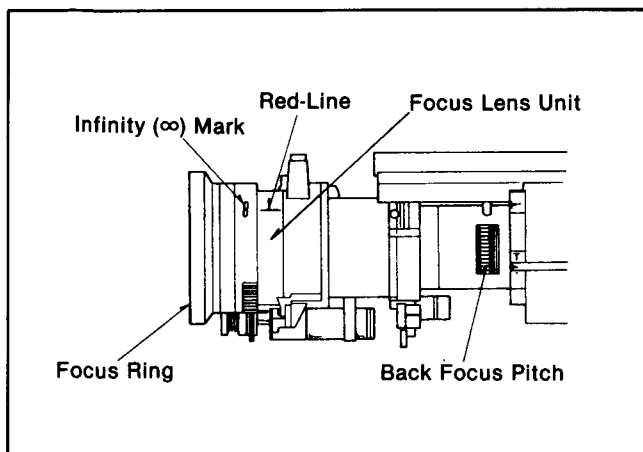

Fig. M6
- (13). Install the focus ring so that the infinity (∞) mark on focus ring is come to red-line on focus lens unit as shown in Fig.M6.
- k. Zoom all the way back and adjust the back focus pitch (refer to Fig. M6) so that the sharpest focus is obtained.